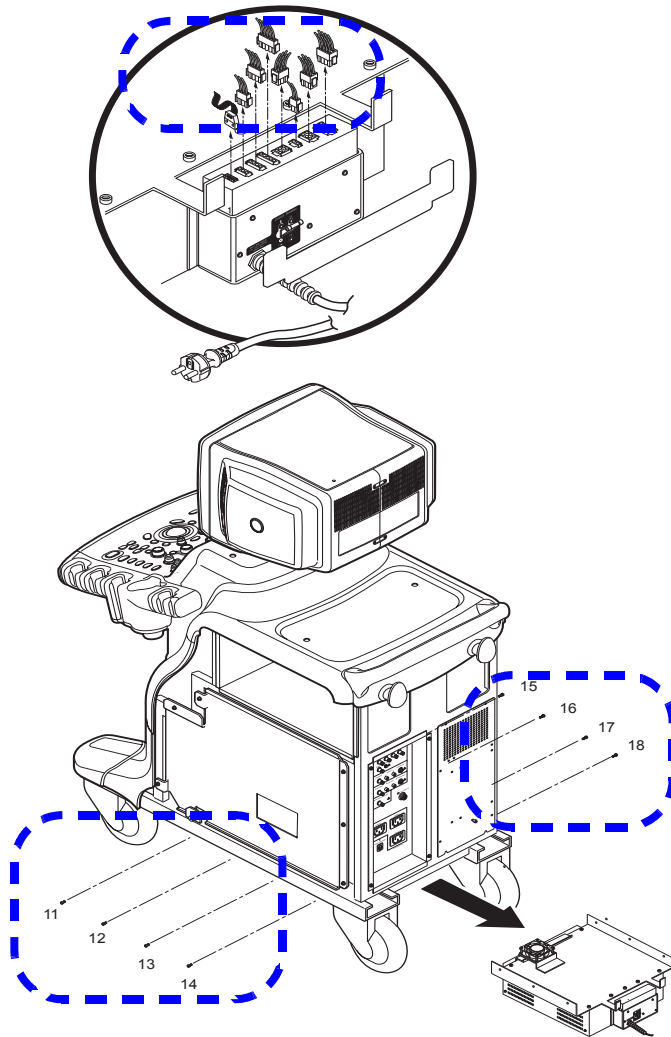

Figure 8-126 Removing the AC Power Assy
- 3.) Unscrew eight (8) screws (11-18) to remove AC Power assy. Refer to Figure 8-126 on page 8-76 ..